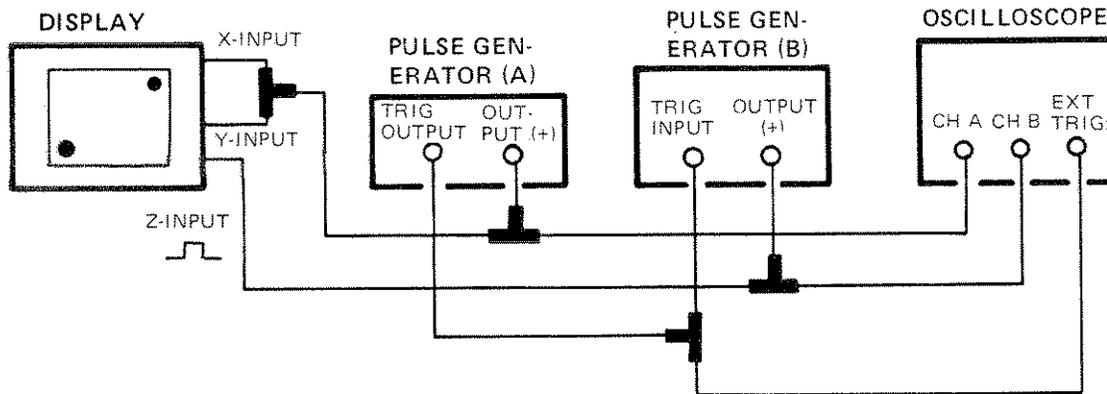

Figure 4-5. Diagonal Settling Time Test Setup
a. Connect equipment as shown in figure 4-5.
b. Set pulse generator (A) as follows:
c. Adjust pulse generator (A) AMPLITUDE to position two spots on diagonal corners of 1340A CRT. Position and Gain controls of 1340A may require adjustments for proper positioning of the spots.
d. Set pulse generator (B) as follows: